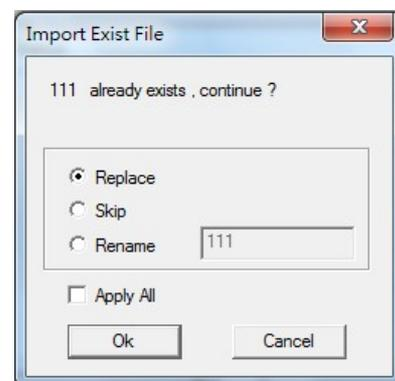

Fig. 1.1.38
1. Click on “File” → “Configuration Import/Export” to bring out dialog seen as fig. 1.1.38.
3. If file is already existed, will pop-up a dialog to confirm to replace, skip, or rename the file. See fig. 1.1.38.